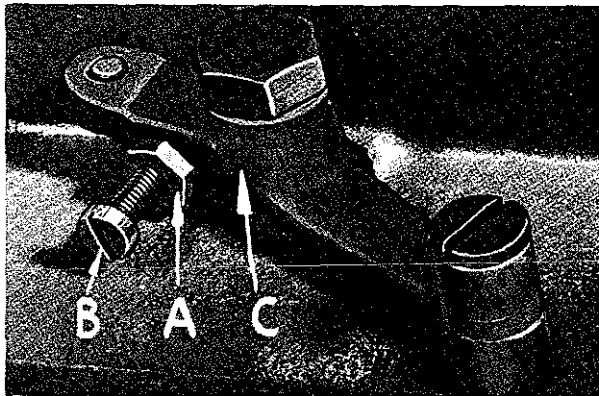
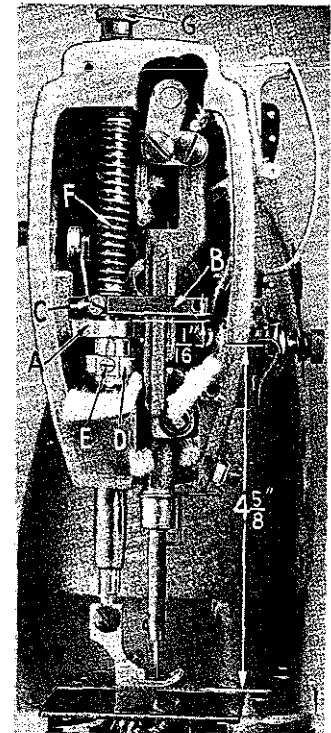
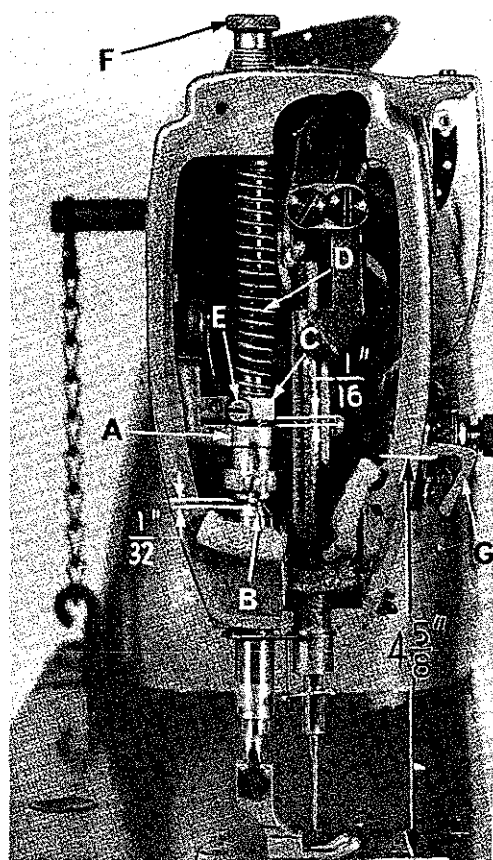

Fig. 15
Fig. 16
Fig. 16A
The presser spring should exert only enough pressure to make the work feed uniformly. To increase the pressure on the presser foot, turn presser spring regulator (G, Fig. 16) in clockwise direction. Turning the regulator counterclockwise decreases the pressure.
The presser bar connection (A, Fig. 16) should be set so that it is about  $\frac{1}{16}$  inch below the presser bar guide (B). This is accomplished by tipping the machine back against the rest pin, loosening the lock nut (A, Fig. 15), and relocating the stop screw (B) on the lifter lever bell crank (C). By turning the stop screw to the right or left, the proper setting of the presser bar connection is accomplished. Tighten the lock nut (A) to lock the stop screw in place.
The presser bar connection (A, Fig. 16A) should be set so that it is approximately  $\frac{1}{32}$  inch above the lower presser bar bushing (B, Fig. 16A). This is accomplished by tipping the machine back against the rest pin, loosening the lock nut (A, Fig. 15) and relocating the stop screw (B) on the lifter lever bell crank (C). By turning the stop screw to the right or left, the proper setting of the presser bar connection is accomplished. Tighten the lock nut (A) to lock the stop screw in place.
When locating the presser bar guide (B, Fig. 16), the presser foot must rest directly against the throat plate with the feed dog in its lowest position. The guide is set properly when there is a  $4 \frac{5}{8}$  inch space between the underside of the needle thread take-up wire and the top of a thin (.085 inch thick) throat plate (Fig. 16).
When locating the presser bar guide (C, Fig. 16A) the presser foot must rest directly against the throat plate with the feed dog in its lowest position. The guide is set properly when there is a  $\frac{1}{16}$  inch space between the guide (C) and the presser bar connection (A, Fig. 16A).
To obtain this setting, remove the pressure from the presser spring (D, Fig. 16A) and loosen set screw (E). Tap on presser foot to insure its being down on the throat plate. Set the guide to the  $\frac{1}{16}$  inch dimension, center the foot by turning it so that the needle enters the middle of its slot and retighten screw (E) in the guide. Now apply pressure by turning the presser spring regulator (F) clockwise.
Set the needle thread pull-up bracket (G) so that the underside of the wire is  $4 \frac{5}{8}$  inches above the throat plate (Fig. 16A).
The tension release should be set so that it will not release when sewing over seams or when the presser foot is raised for back tacking. The adjustment of the tension release cam (D, Fig. 16) and the in and out position of the tension assembly are required for proper operation.
The tension release cam (D, Fig. 16) should now be positioned by loosening set screw (E, Fig. 16) and then raising or lowering the cam to suit the sewing conditions. The average release point is between 1/4 and 5/16 inch of presser foot lift above the throat plate. Tighten tension release cam set screw securely.